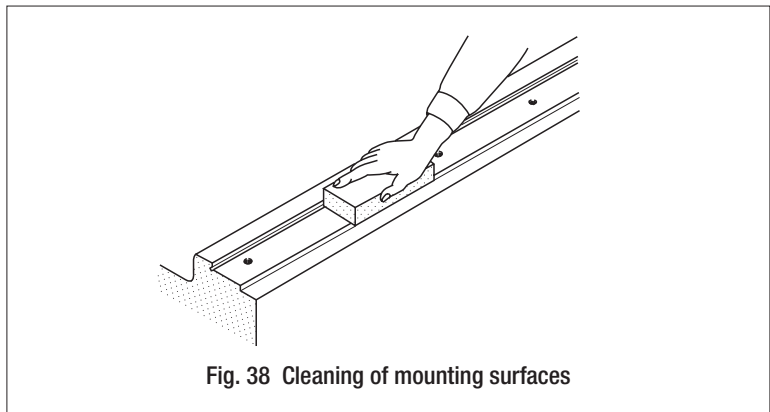

Fig. 38 Cleaning of mounting surfaces
- Remove burrs and blemishes from reference mounting surfaces and mounting surfaces of the machine using an oil-stone, etc., and then wipe the surfaces with clean cloth. (See Fig. 38.)